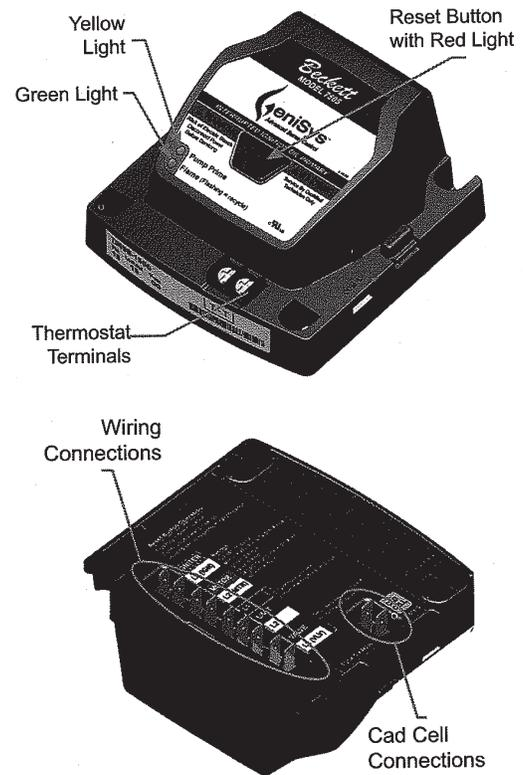

Figure 7-5: GeniSys 7505 Oil Primary Terminals, LED's and Reset Button
- a. **GeniSys 7505 Control Features**, see Figure 7-5.